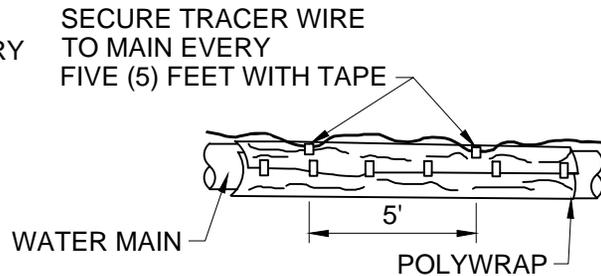

FIGURE 3
1. TRACER WIRE SHALL BE INSTALLED IN A CONTINUOUS FASHION. INSTALL TRACER WIRE ON TOP OF WATER MAIN AND SECURE TO MAIN EVERY FIVE(5) FEET AS SHOWN IN FIGURE 3.